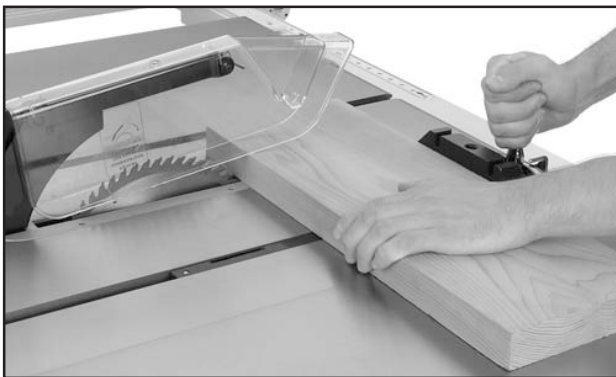

Figure 75. Typical crosscutting operation.
7. Hold the workpiece firmly against the face of the miter gauge (**Figure 75**), and ease it through the blade until the workpiece is completely past the saw blade.